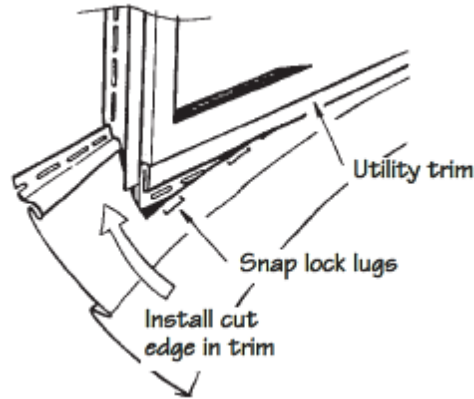

Figure 11-5. Undersill (“Utility”) Trim.
1. Undersill trim (or “utility trim” as noted in Figure 11-5.) is installed under the soffit F-channel on eave sides of the house and under windows. Under soffit F-channel, nail snugly every five slots using 2½" siding nails (use 1½" siding nails when applying directly over OSB sheathing) being sure to hit framing or OSB sheathing.